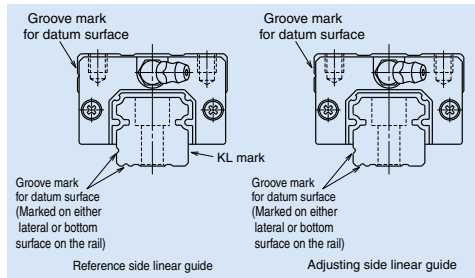

Fig. 10.1 Datum surface
- In case that two or more linear guides are used together, one linear guide is designated as a reference side guide, and the rest is adjusting side guide(s). The reference side linear guide has its reference number, serial number, and "KL" mark on the opposite side of the datum surface (Fig. 10.1).